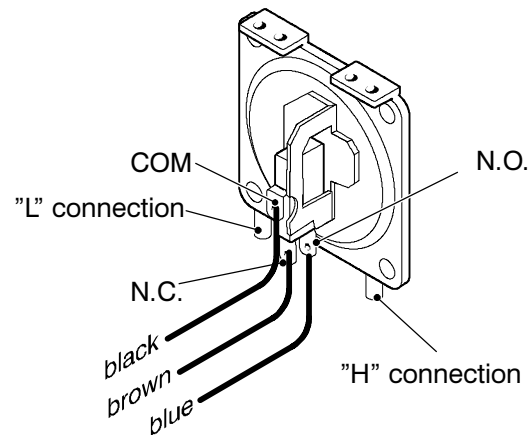
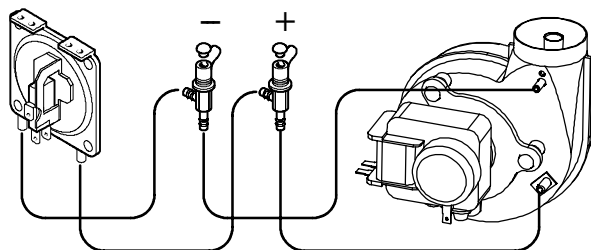

Fig. 66
Fig. 70
- 2 Disconnect the wires and check the electrical resistance between the connections of the Air pressure switch (Fig. 66).
Warning: to correctly connect the venturi device to the Air pressure switch, refer to Fig. 70.
Warning: to correctly connect the Air pressure switch, refer to Fig. 70 and Fig. 66 for the correct wiring.